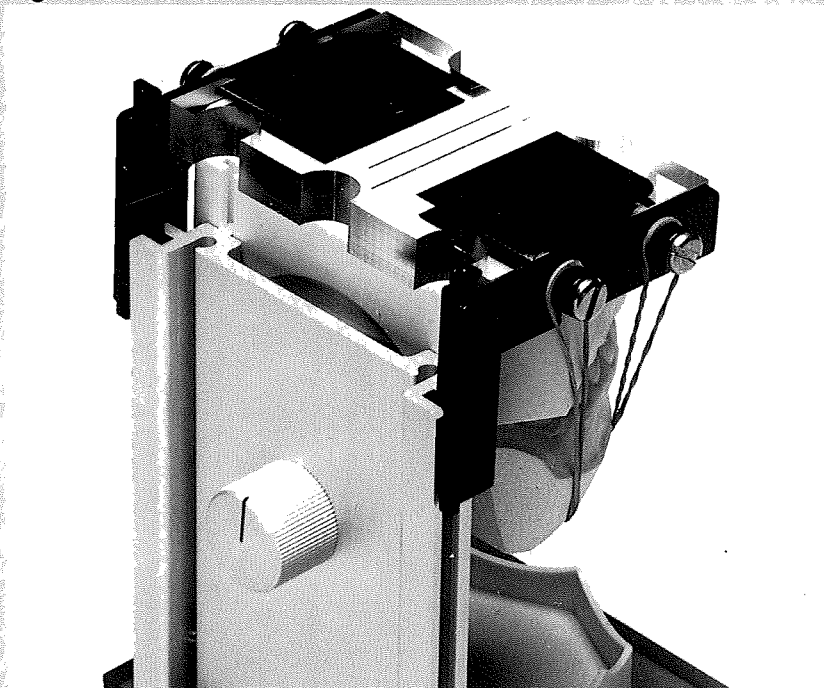

Fig. 7
**8** Set the locking bar of the base unit into a horizontal position. Insert the mandibular base tray as described in step 5 and fill with plaster (Fig. 7).